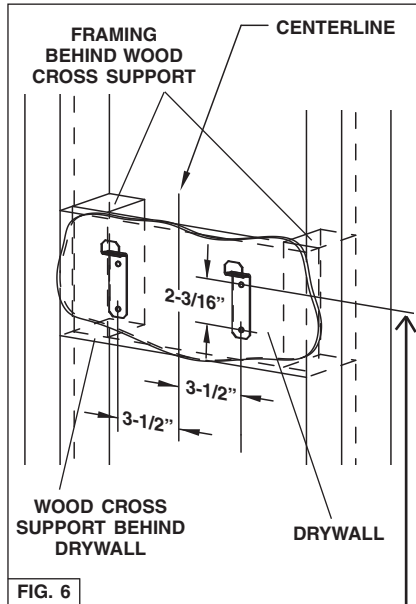

FIG. 6
- Construct wood wall **framing** that is **flush** with interior surface of wall studs. Fig. 6. Make sure:
- After wall surface is finished**, secure the mounting brackets to framing with (4) 4.8 x 38 mm mounting screws. See chart below for mounting bracket location.